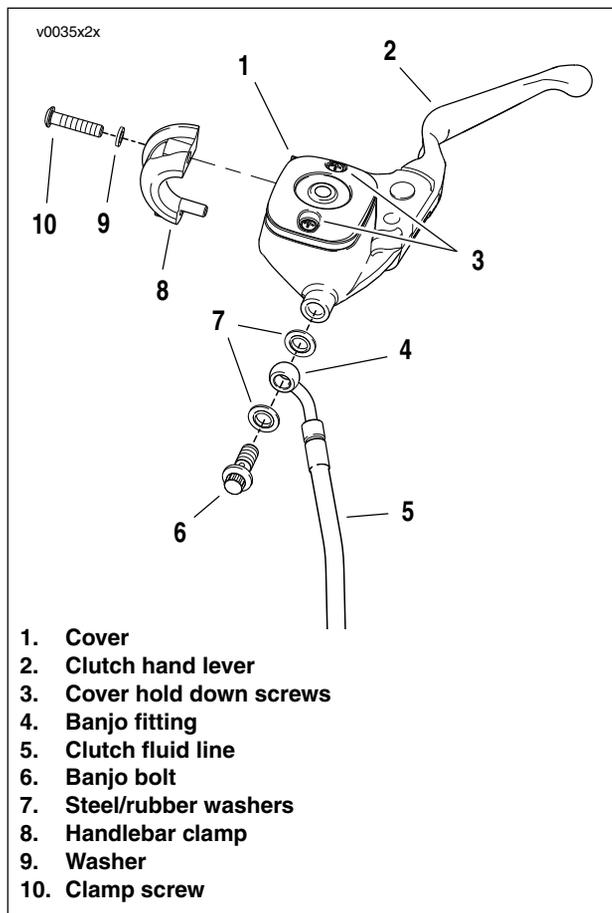

Figure 2-31. Clutch Master Cylinder/Reservoir
3. See Figure 2-31. Loosen, but do not remove, screws (10) with flat washers (9) that detach handlebar clamp (8) from clutch master cylinder/reservoir.
4. Loosen both screws (3) on cover (1) to relieve pressure in master cylinder reservoir.
1. See Figure 2-31. Attach master cylinder/reservoir to handlebars with handlebar clamp (8). Orient lever to rider position and tighten two clamp screws (10) to 8-9 Nm (71-80 in-lbs).
2. Attach banjo fitting (4) of clutch fluid line to master cylinder with **new** steel/rubber washers. Install electrical controls.